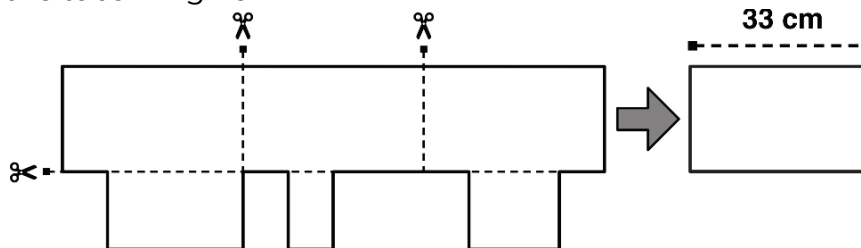

Fig. 10 - Ridge elements preparation
- Arrange the ridge elements by cutting an entire shingle into three pieces and removing the tabs - Fig. 10.
- Arrange the ridge elements by cutting an entire shingle into three pieces and removing the tabs – Fig. 10.